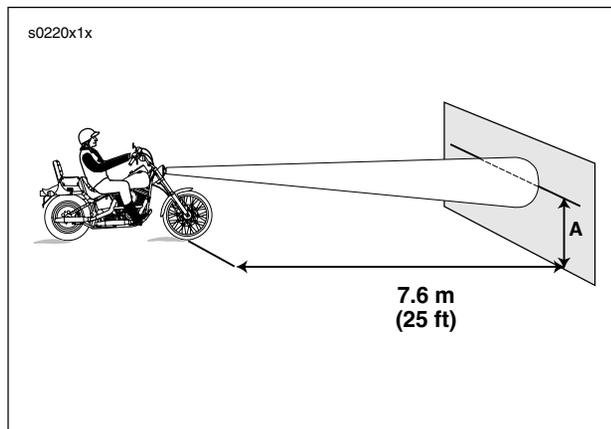

Figure 1-91. Headlamp Alignment
3. See Figure 1-91. Position motorcycle 7.6 m (25 ft) away from a screen or wall. Measure the vertical distance from center of headlamp to floor, and draw a horizontal line (A) on screen or wall at same height above floor.